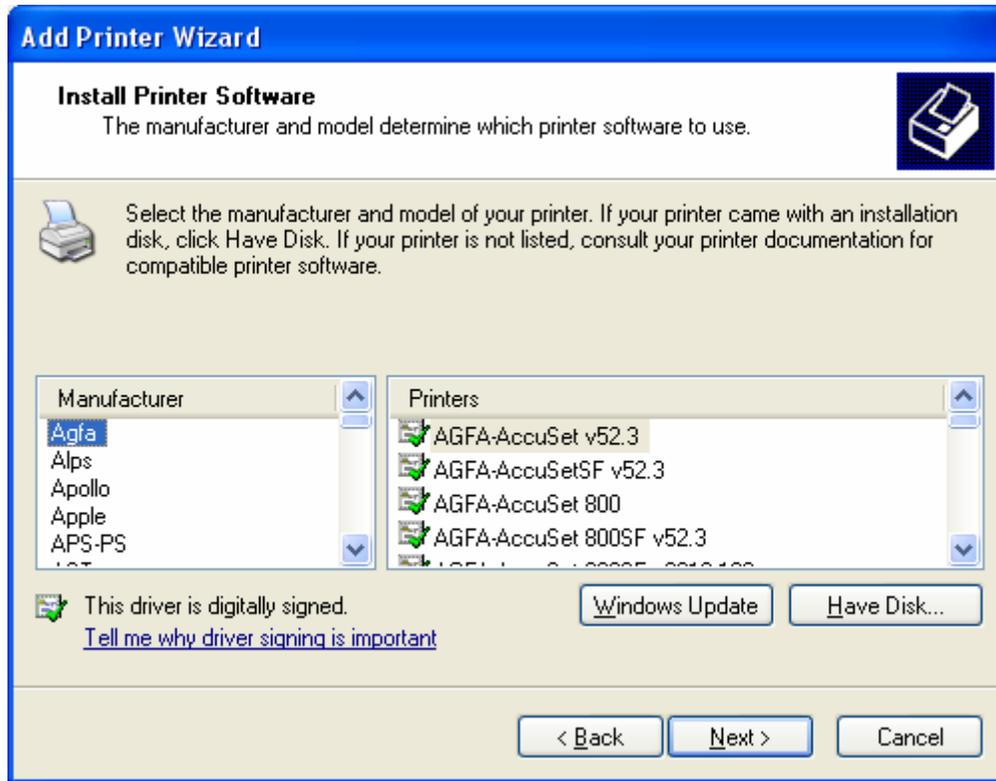

Fig. 4-7 Print Driver Installation
STEP 8: Select your system or bypass (see fig. 4-7)